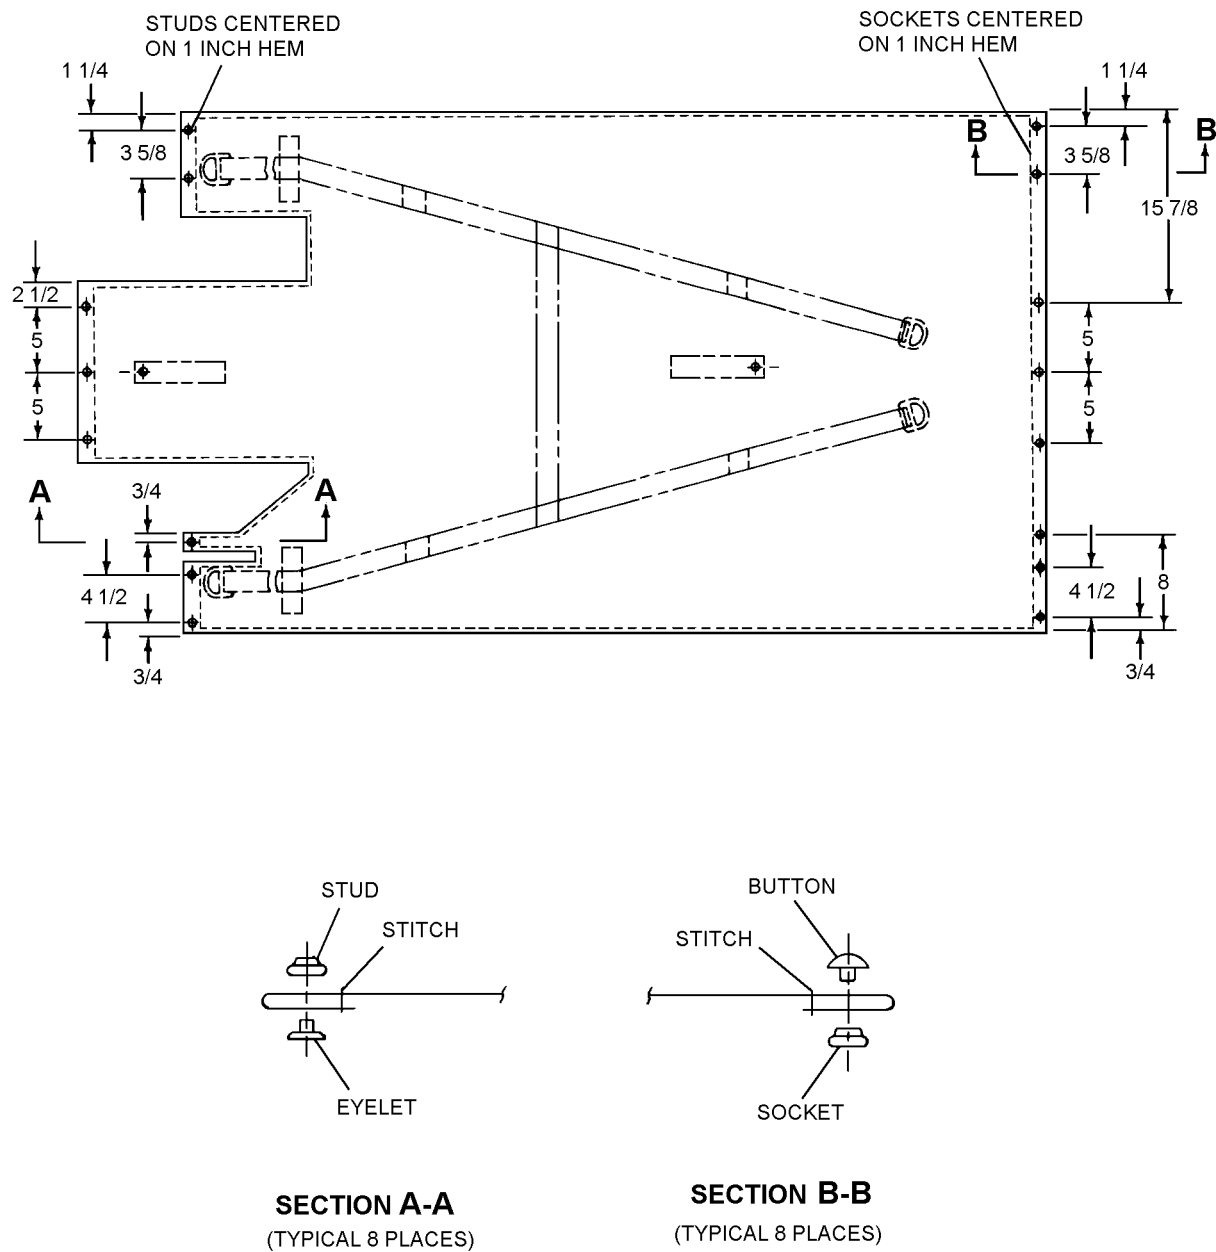

Figure 11-17. Fastener Locations
7. Attach 8 snap fasteners (MS27980) into the body panel as shown in figure 11-17, centered on the 1-inch hems. Button/Sockets will be installed along the straight edge, buttons up and the Stud/Eyelets along opposite edge, studs up (Sections A-A and B-B).